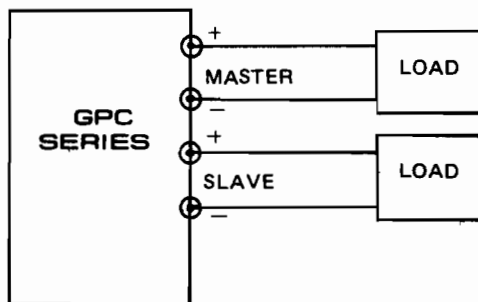

Fig. 5-2 Independent Operation
- F. Fig. 5-2 illustrates the connection procedure.